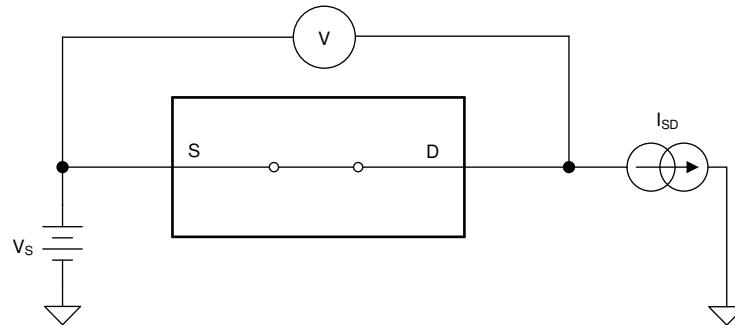

図 7-1. On-Resistance Measurement Setup
The on-resistance of a device is the ohmic resistance between the source (S) and drain (D) pins of the device. The on-resistance varies with input voltage and supply voltage. The symbol R_{ON} is used to denote on-resistance. The measurement setup used to measure R_{ON} is shown in 図 7-1. Voltage (V) and current (I_{SD}) are measured using this setup, and R_{ON} is computed with $R_{ON} = V / I_{SD}$: